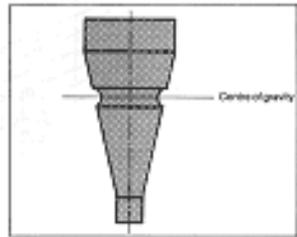

Figure 51: Reduction of the resonant frequency of a conical sonotrode by a general shift of the center of gravity.
- Conical shape (Figure 51), exponential form, cylinder - making notches at the centre of gravity.